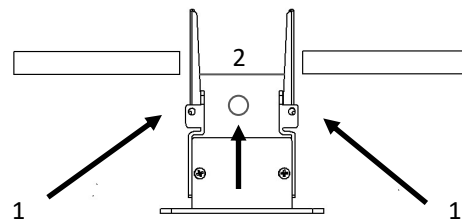

FIG. 7
- Locate the spring clips, fold them 'up' until they will clear the hole cutout as seen in Fig. 7.